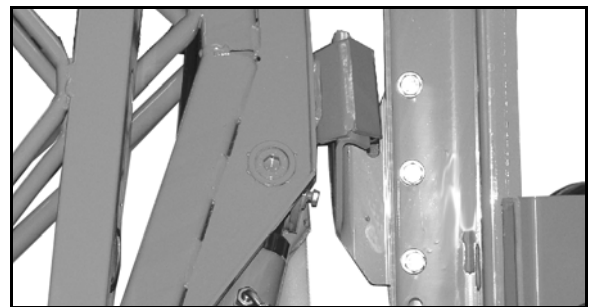

Fig. 10
- Transport locking mechanism (Fig. 10) to prevent the **Super-S** boom from folding out unintentionally